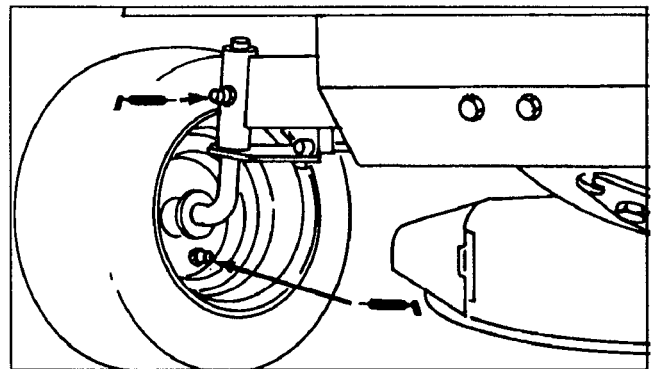

Figure 14
1. Wipe (4) grease fittings on spindles and wheels (Fig. 14) with a clean rag. If there is paint on front of fittings, scrape it off.
2. Lubricate both axle spindles with No. 2 general purpose grease (Fig. 14). Continue to pump grease until it oozes out the spindle. Wipe up any excess grease.
3. Lubricate both front wheels w/No. 2 general purpose grease (Fig. 14). Pump grease gun until grease oozes. Wipe up any excess grease.